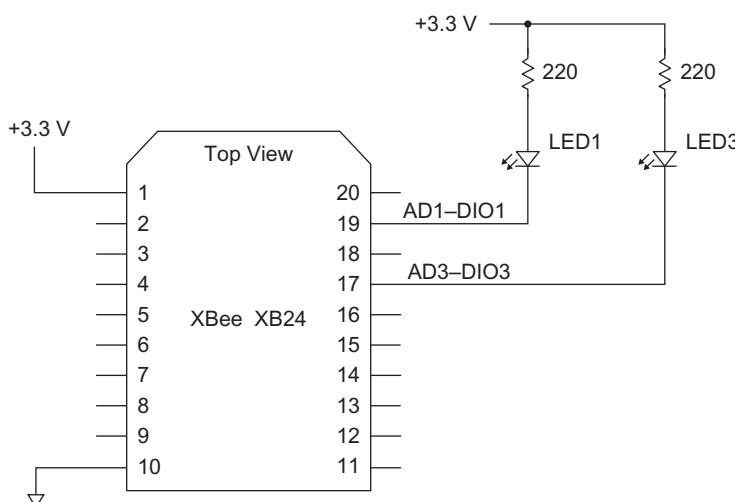

FIGURE 15.1 This schematic diagram applies to the XMTR and the END XBee module used in this experiment. (There is no LED2.)
Step 4. The schematic diagram in Figure 15.1 shows the connections needed for both the XMTR and the END module in your breadboard. If you have other wires or components attached to the XMTR or the END module, please disconnect them now. Then add the components shown in Figure 15.1.